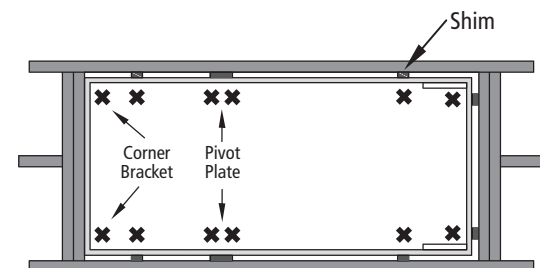

FIGURE 5
A. Install fasteners at the 12 locations shown in figure 5 for permanent installation.